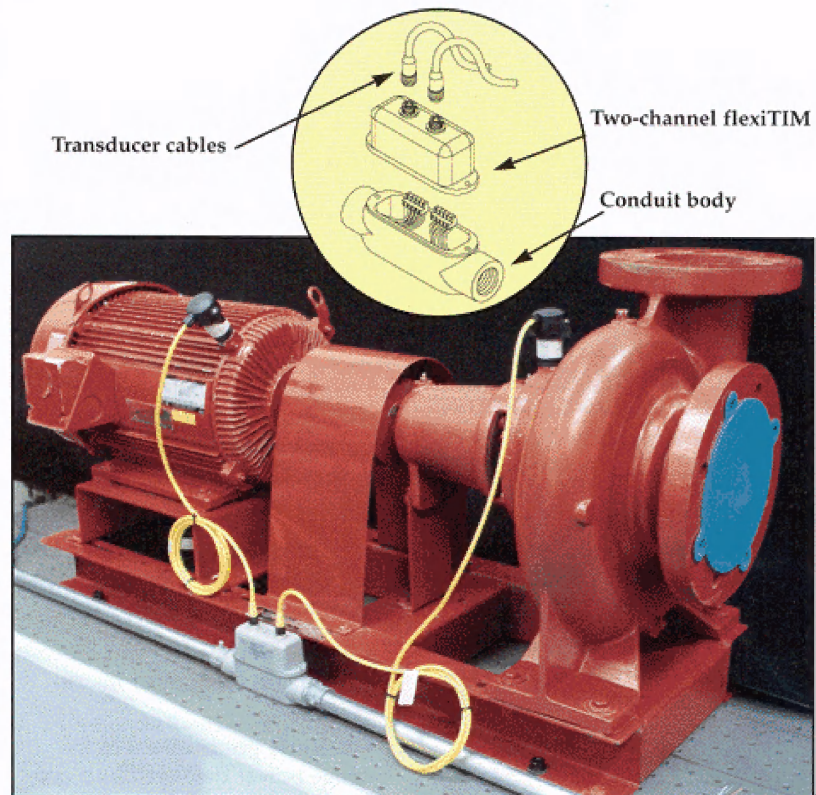

Figure 2. Typical pump installation, showing flexiTIM and transducer locations.
3. Quick plug connectors on the cover of the flexiTIM, speed installation and removal of the transducer cable during machinery maintenance or replacement. See Figure 2.